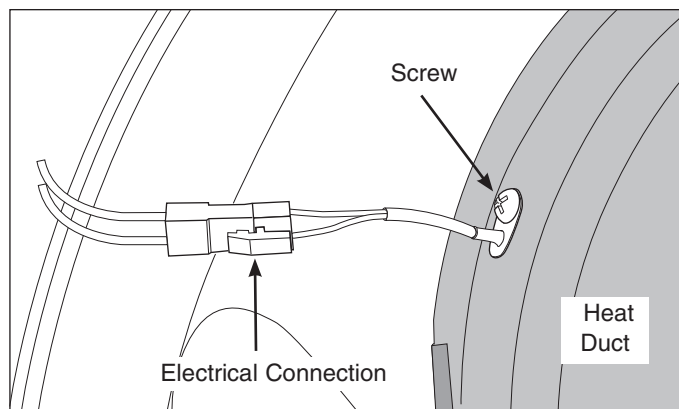

Figure 4-25.
2. The inlet thermistor is mounted to the top left hand side of the heat duct. Using a #2 square bit screwdriver, extract the screw securing the inlet thermistor to the heat duct. (See Figure 4-25)